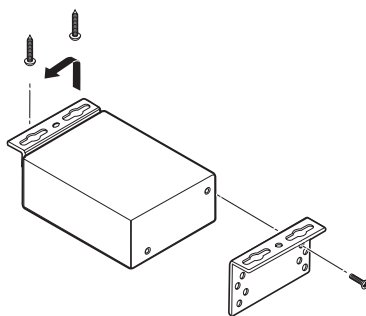

Figure 2-6 — Preparing the YCS SW2 for under-desk mounting
3. Attach one bracket to the side of the unit, using the provided machine screws (see figure 2-6, below).